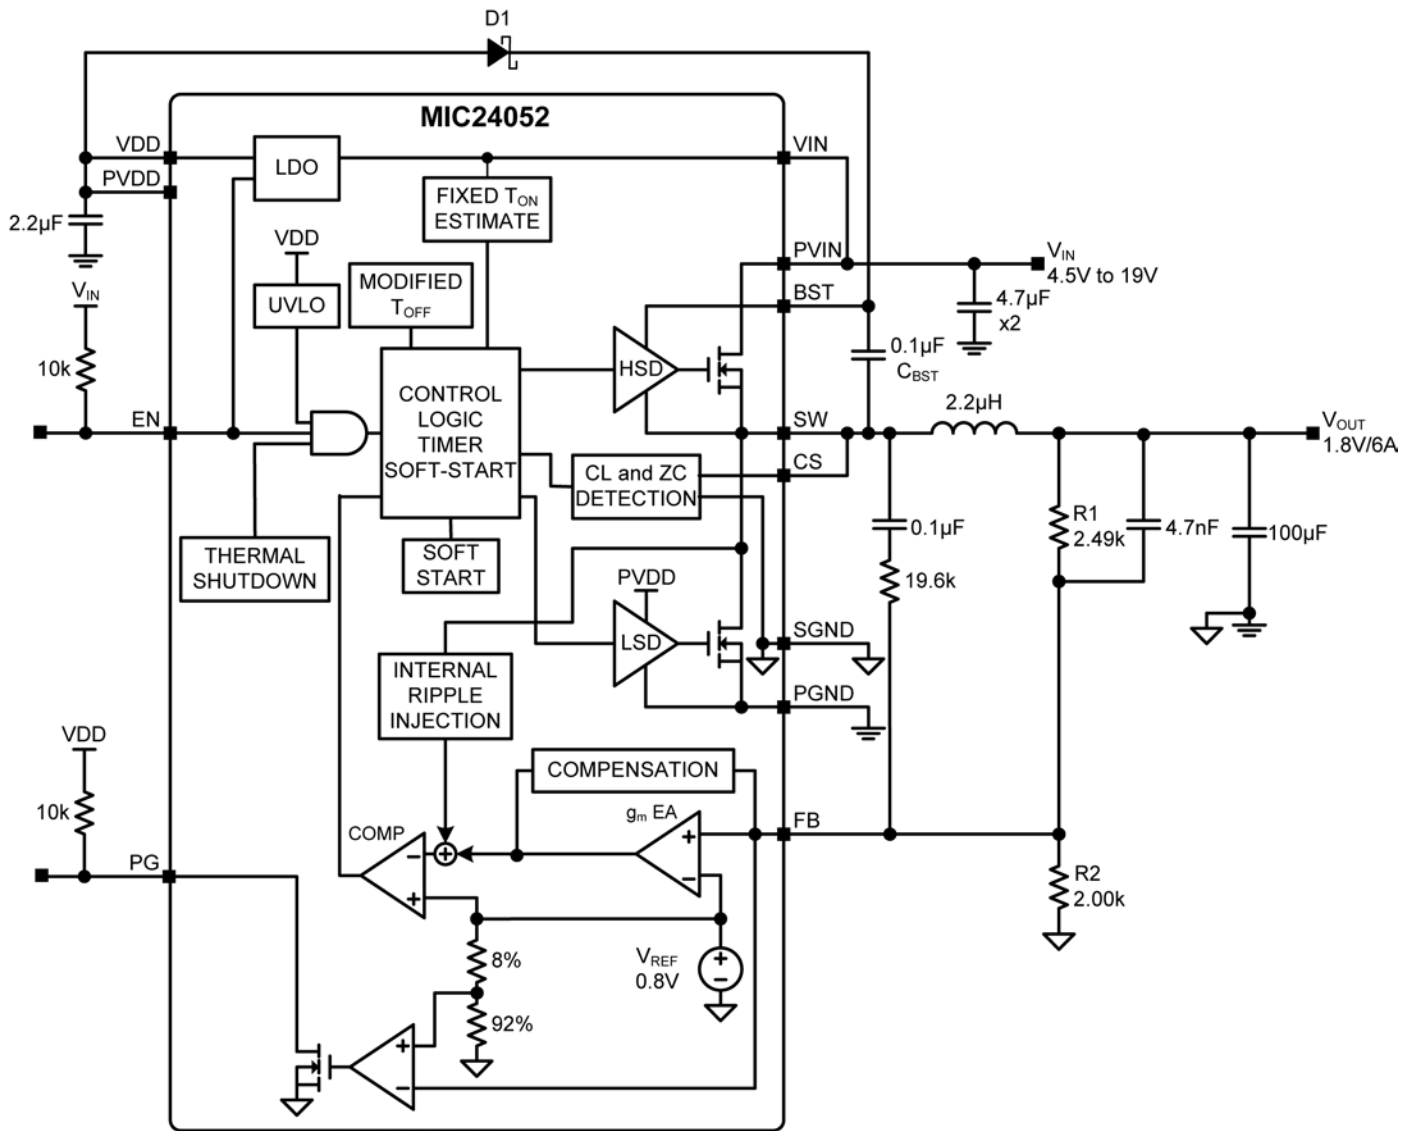

Figure 1. MIC24052 Block Diagram
The MIC24052 is able to operate in either continuous mode or discontinuous mode. The operating mode is determined by the output of the zero cross comparator (ZC) as shown in Figure 1.
The block diagram (Figure 1) shows a bootstrap circuit, consisting of D1 (a Schottky diode is recommended) and C_{BST} . This circuit supplies energy to the high-side drive circuit. Capacitor C_{BST} is charged, while the low-side MOSFET is on, and the voltage on the SW pin is approximately 0V. When the high-side MOSFET driver is turned on, energy from C_{BST} is used to turn the MOSFET on. As the high-side MOSFET turns on, the voltage on the SW pin increases to approximately V_{IN} . Diode D1 is reverse biased and C_{BST} floats high while continuing to keep the high-side MOSFET on. The bias current of the high-side driver is less than 10mA so a 0.1 μ F to 1 μ F is sufficient to hold the gate voltage with minimal droop for the power stroke (high-side switching) cycle, i.e. $\Delta BST = 10\text{mA} \times 1.67\mu\text{s}/0.1\mu\text{F} = 167\text{mV}$. When the low-side MOSFET is turned back on, C_{BST} is recharged through D1. A small resistor R_G , which is in series with C_{BST} , can be used to slow down the turn-on time of the high-side N-channel MOSFET.